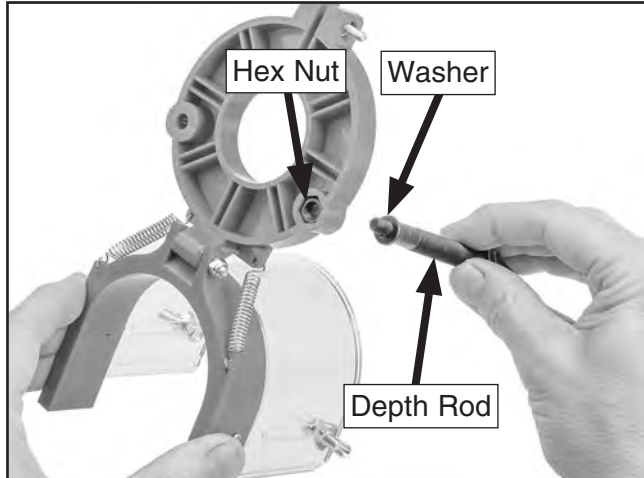

Figure 5. Attaching depth rod to chuck guard.
7. Remove (2) M10-1.5 hex nuts, (1) M6-1 hex nut and (1) 6mm flat washer from depth rod.
8. Pull bottom of chuck guard forward to open and attach depth rod to guard with M6-1 hex nut and 6mm flat washer (see **Figure 5**).